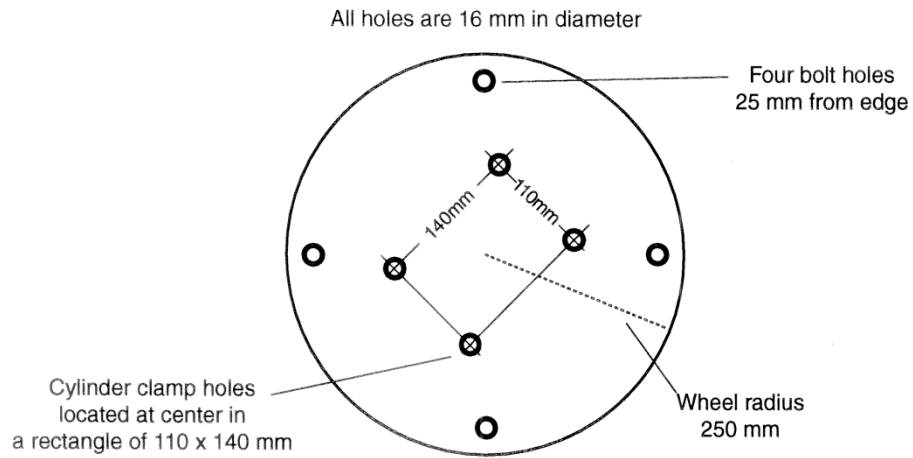

Figure A-1
3. Drill 16-mm holes into the wheels for placement of the axles and clamps in the positions shown in Fig. A-1.
4. Glue a piece of rubber-mat (80 x 200 mm) into the center of each wheel between the clamp holes (Figures A-1 and A-3). These mats will serve as a cushion for the stainless-steel LPG cylinder(s).